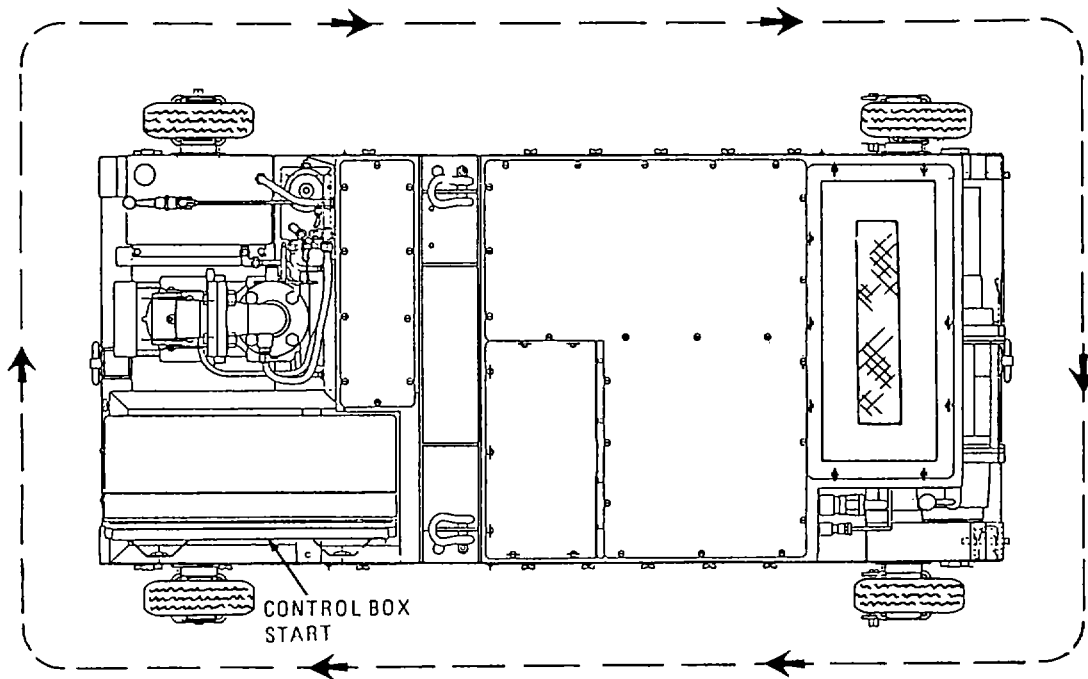

Figure 2-2. PMC Routing Diagram
- b. Routing Diagram. Refer to Figure 2-2.